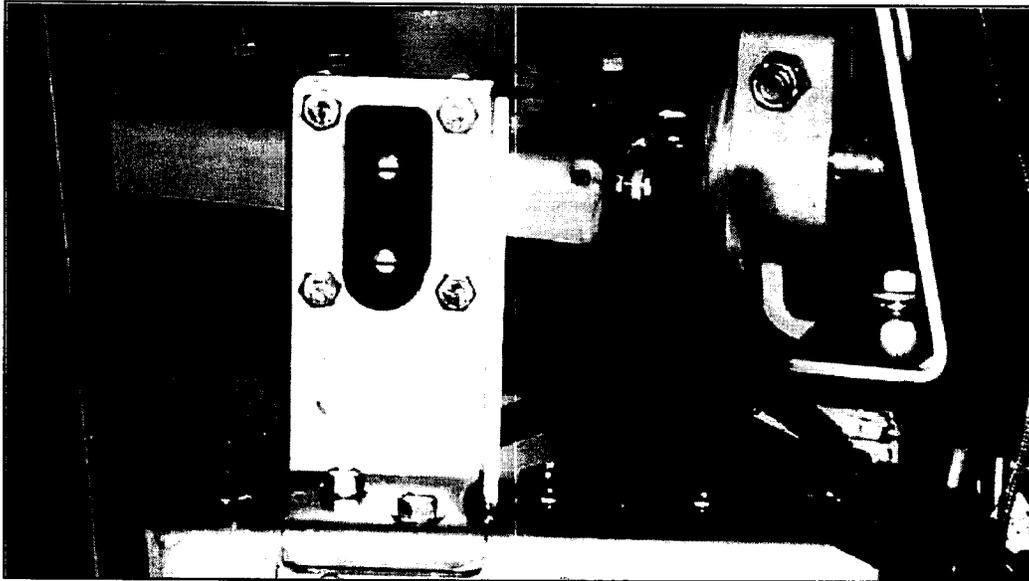

Figure 3. Reference photo.
8. Install the booster connector assembly (mounting bracket) to the frame and secure the protective cap (p/n 07-08-2149) using two screws (p/n 19-1-529) (Figures 3 and 4).